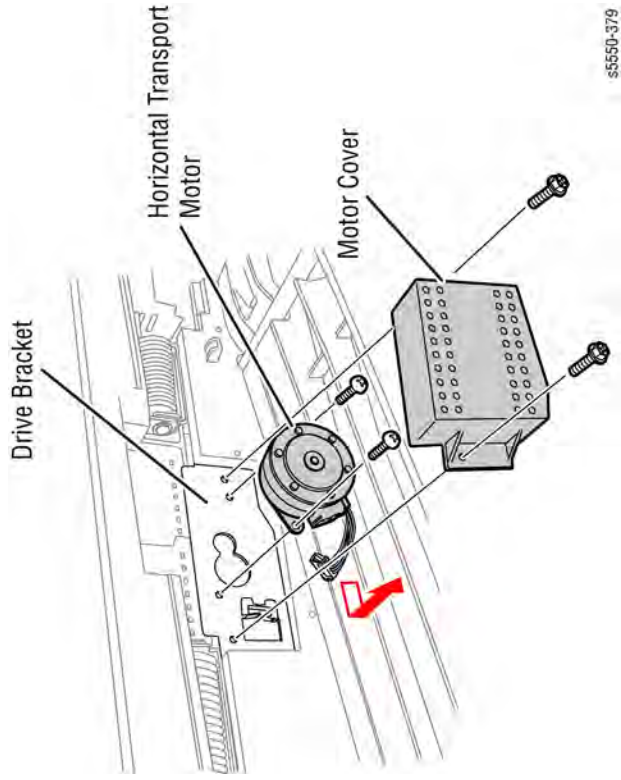

Figure 2 Removing the Horizontal Transport Motor
- Remove the two screws securing the Motor to the Drive Bracket, and remove the Motor in the direction of the arrow as in Figure 2.